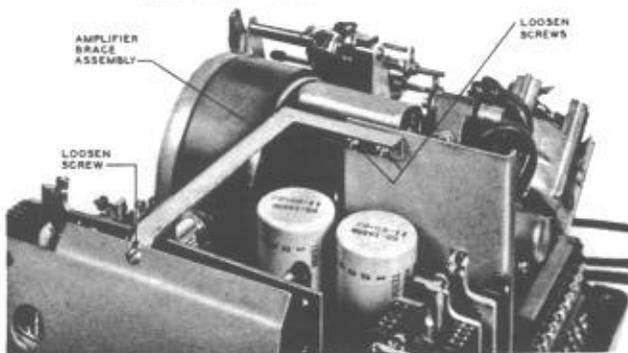

Fig. 3 - Amplifier Brace Assembly, Standard Sets
2. For standard and early type sets, loosen the screws shown in Fig. 3 and remove the amplifier brace assembly.